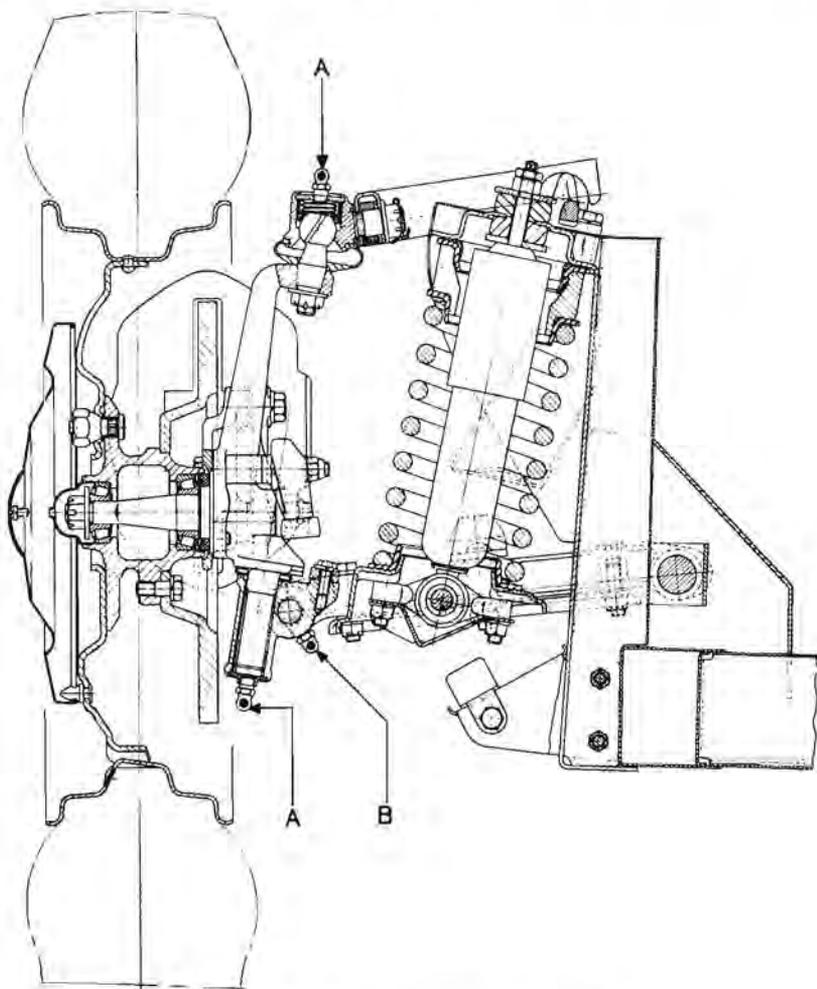

Fig. 10. Front suspension lubrication.
Nipples are provided for lubricating the steering swivels (A), outer tie rod, ball joints, outer bushes of the lower wish-bones (see (B) Fig. 10), and the steering slave drop arm pivot. Do not lubricate the joints attached to the drop arms as they contain rubber. Lubricate the inner nylon wish-bone bushes with oil occasionally. A pronounced squeak develops when these bushes become dry. When greasing the lower suspension swivels it is an advantage to jack up under the road spring frame until the front wheel is free of the ground. This allows grease to cover the thrust faces. Grease these points every 1,000 miles.